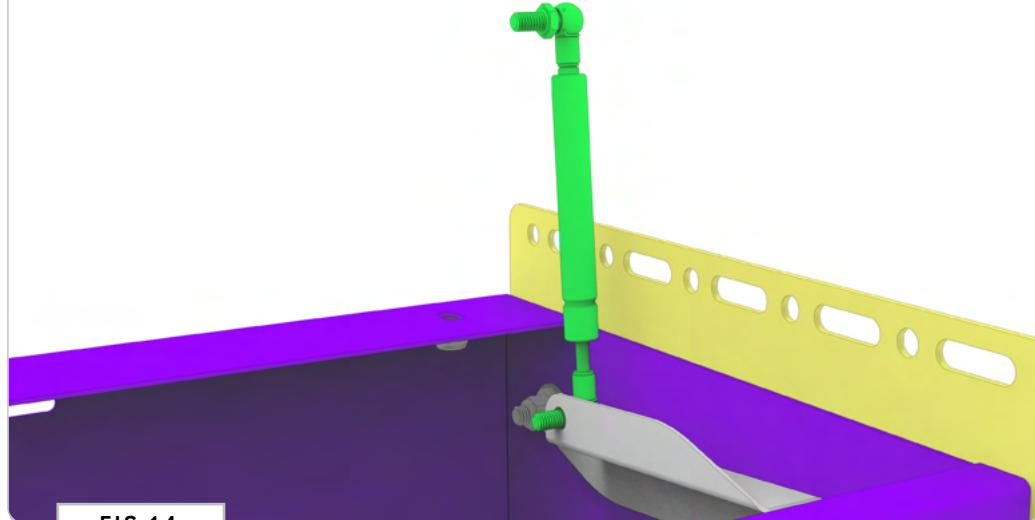
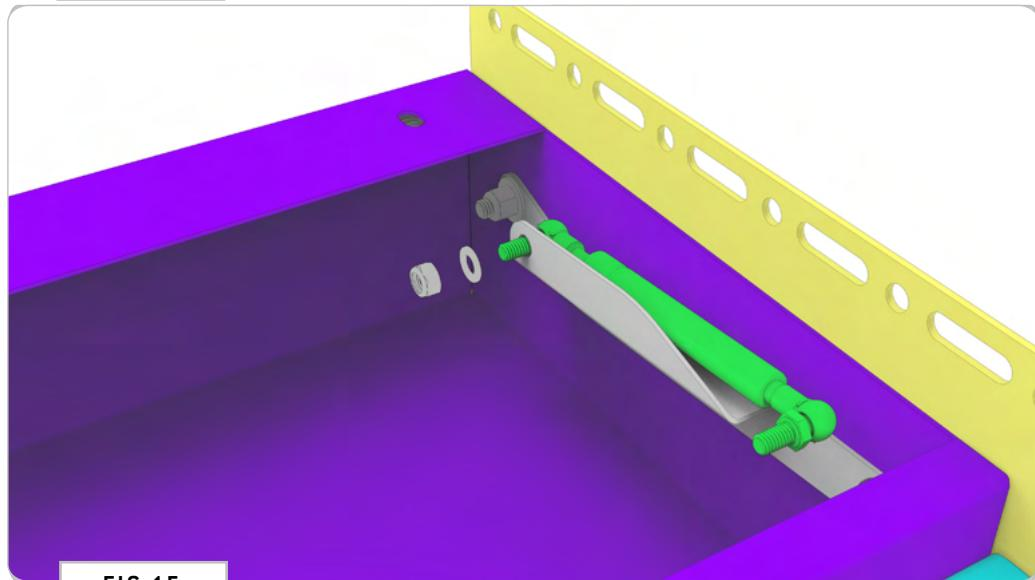

FIG 14
FIG 15
2.5 Attach Gas Struts to Brackets: Fasten Gas Struts to the Left and Right Side Chest Strut Brackets in the orientation shown in FIG 14 using (2) M8 Nylon Locknuts and Flat Washers (FIG 15).